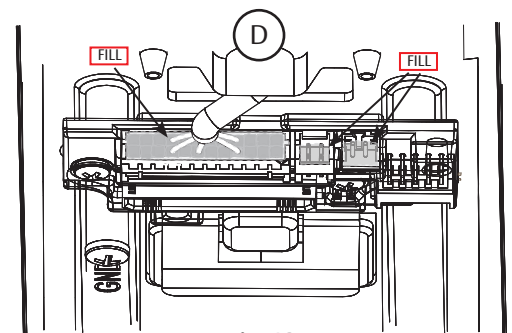

Fig. 13B
D. Ensure all openings on back of secured connectors are covered completely with grease (Fig. 13B).